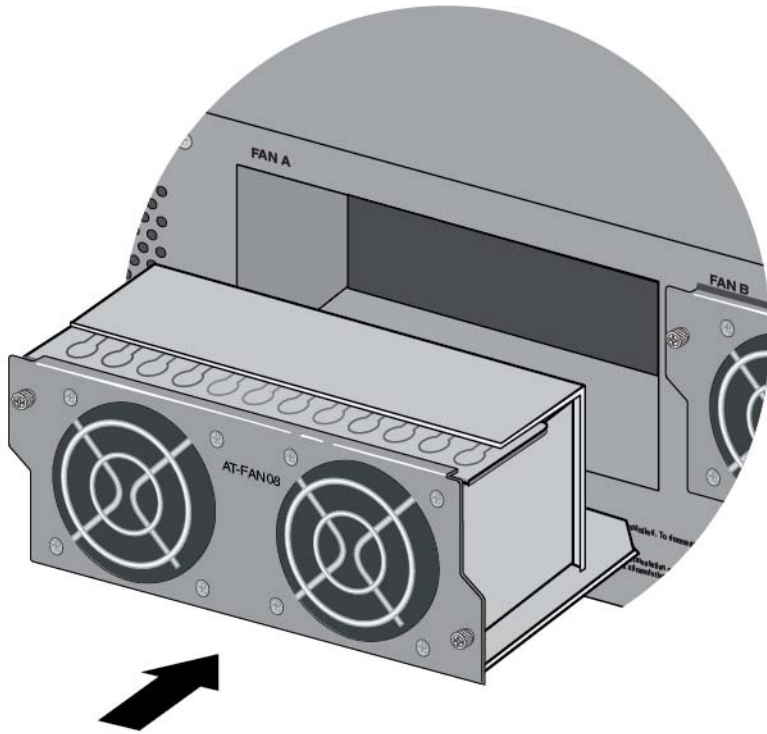

Figure 124. Aligning the FAN08 Module in the Chassis Slot
1. Align the FAN08 Module in the slot as shown in Figure 124 on page 169.